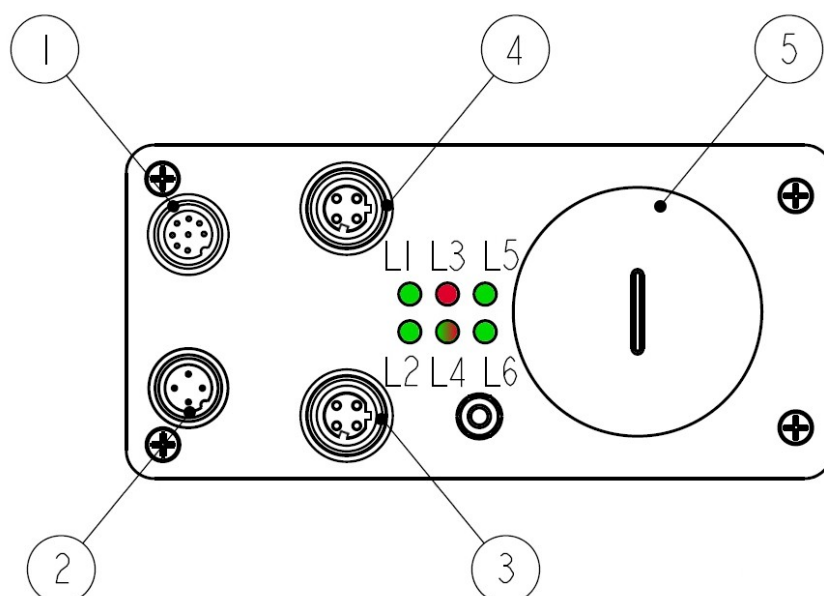
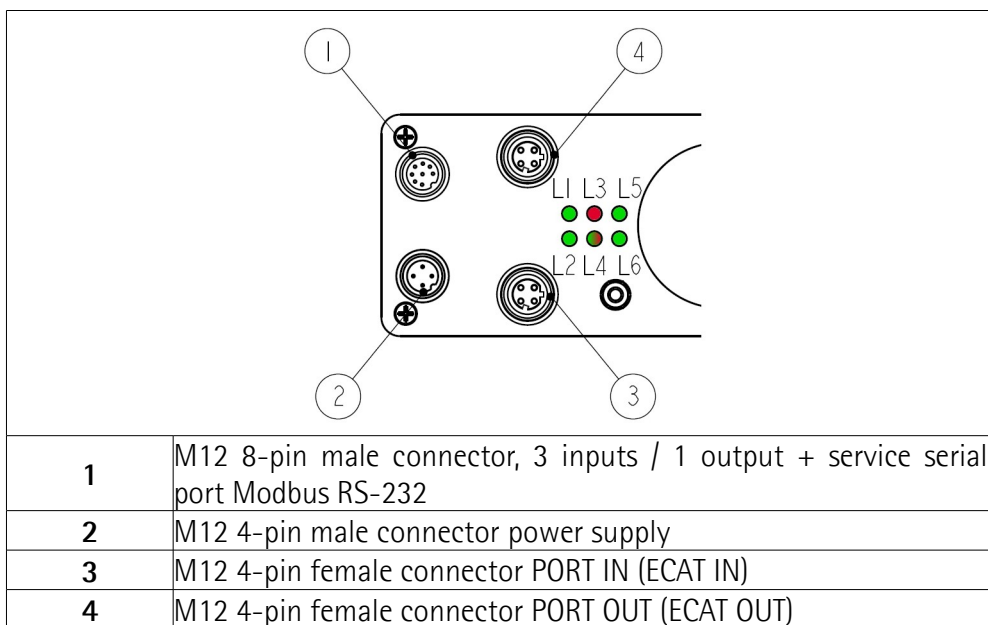
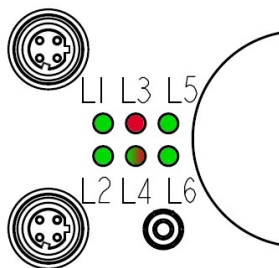

Figure 4: Connectors and diagnostic LEDs
Figure 5: Connectors
Figure 6: Diagnostic LEDs
4.2 Connectors (Figure 4 and Figure 5)
4.3 Diagnostic LEDs (Figure 4 and Figure 6)